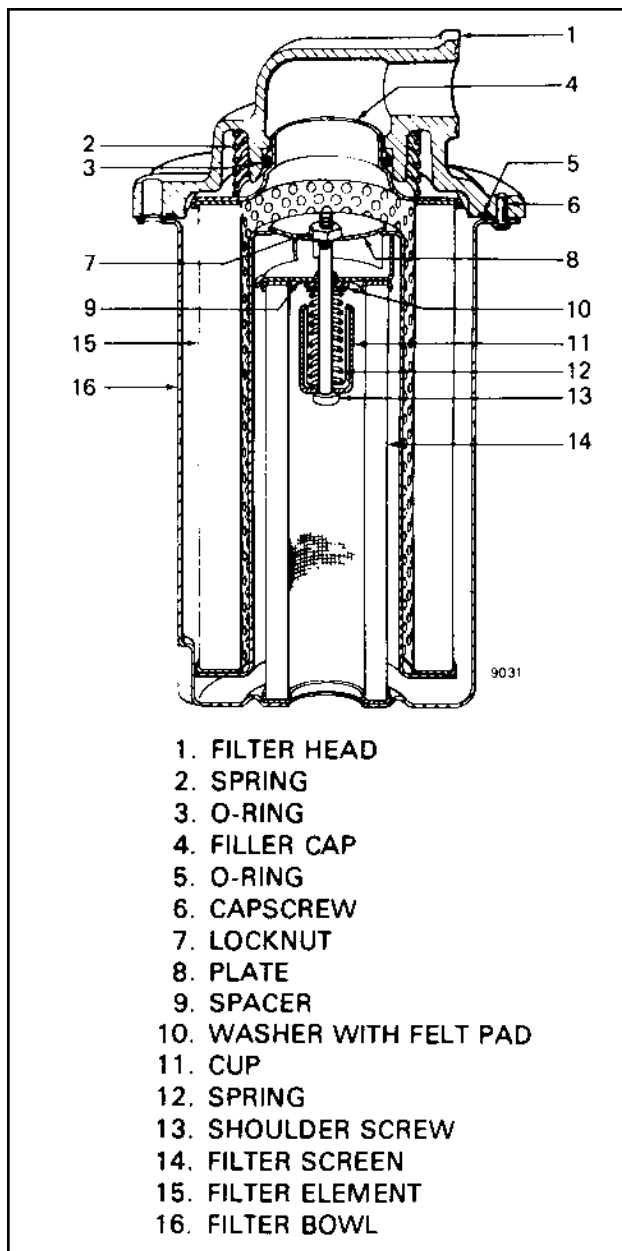

FIGURE 20. HYDRAULIC OIL FILTER
B. Remove the 4 screws that hold the filter bowl to the head. See Figure 20.